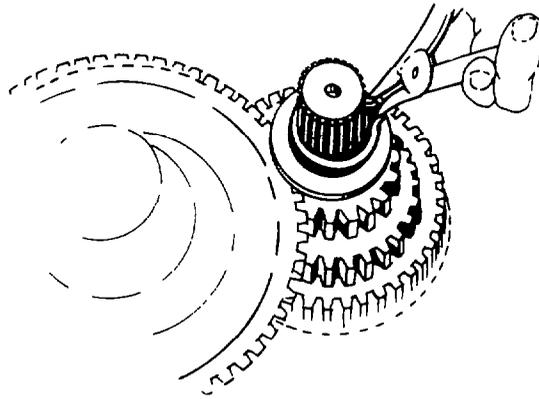

Fig. 180 — Removing Thrust Washer Retaining Snap Ring
v. Remove the front countershaft thrust washer retaining snap ring then remove the thrust washers from the countershafts (see fig. 180).